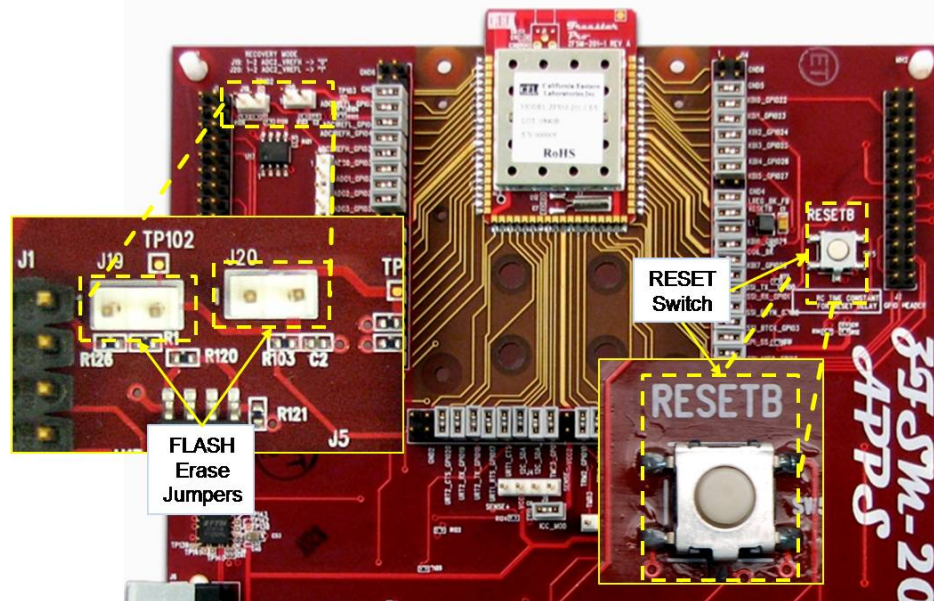

Figure 30 – Photo, EVB Details (FLASH Erase Jumpers & RESET)
- 1) With power applied to the evaluation board, attach shorting jumpers to the **'FLASH Erase Jumpers'** **'J19'** and **'J20'**. See Figure 30 for their location (shown without jumpers).
- 2) Press the **'RESETB'** switch. See Figure 30 for its location.